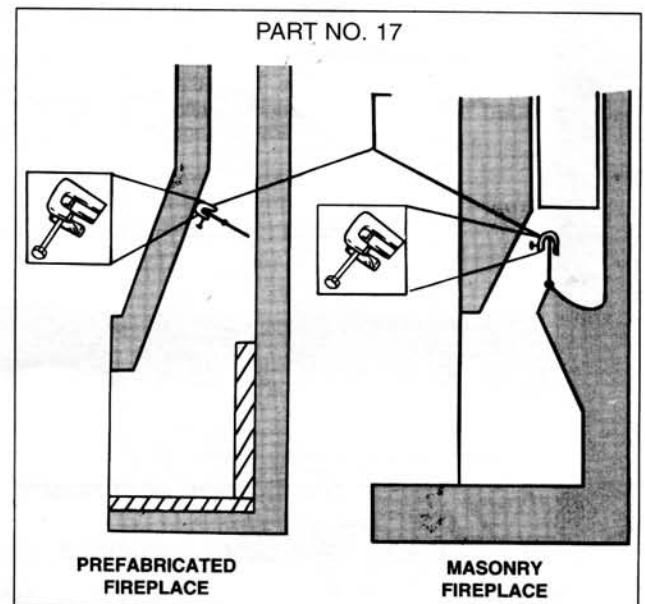

Figure 2. Damper stop clamp.
- B. Open fireplace damper fully and install Damper Stop Clamp with 1/4x2" set screw (Part #14). This clamp is designed to allow any pilot combustion on products to vent (See Figure 2.) Should the Damper Stop Clamp supplied not fit, a permanent damper stop clamp must be installed that will keep the damper open at a distance of not less than 1 1/2". Damper must be in full open position anytime this unit is in operation.